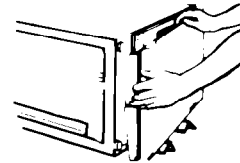

FIGURE 7
6. Lay two carton corner posts or other protective material (such as a throw rug) on the floor; then lay the unit on either of its sides on the corner posts. The corner posts will protect the finish of the compactor and the floor. See Figure 7. NOTE: Do not truck or handle by console.
Remove the cardboard shipping pad located on the bottom. See Figure 7. Stand compactor upright.